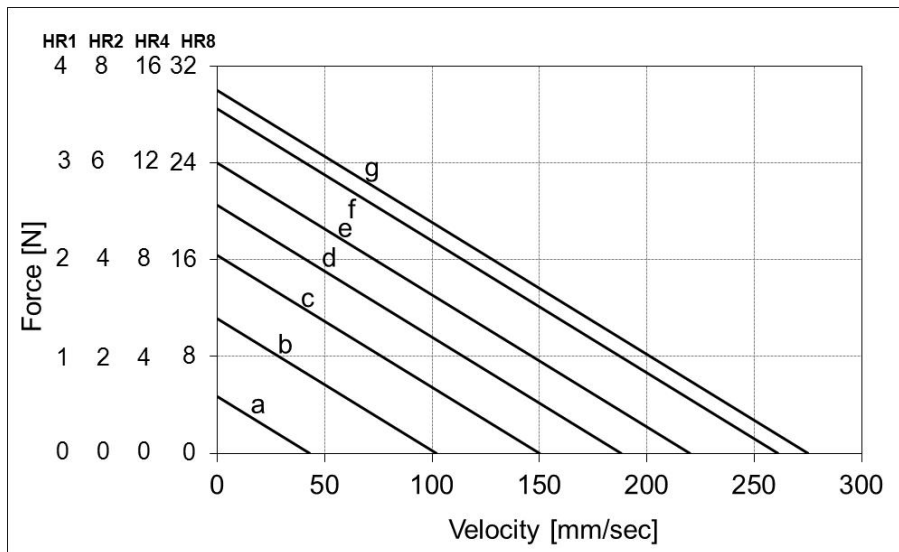

Figure 35: Motor Force vs. Velocity at the Various Work Regimes (a-g) normal mode
- Determine the correct performance envelope in normal mode to avoid overheating and damage to the HR motor (See Figure 35 and Table 8).